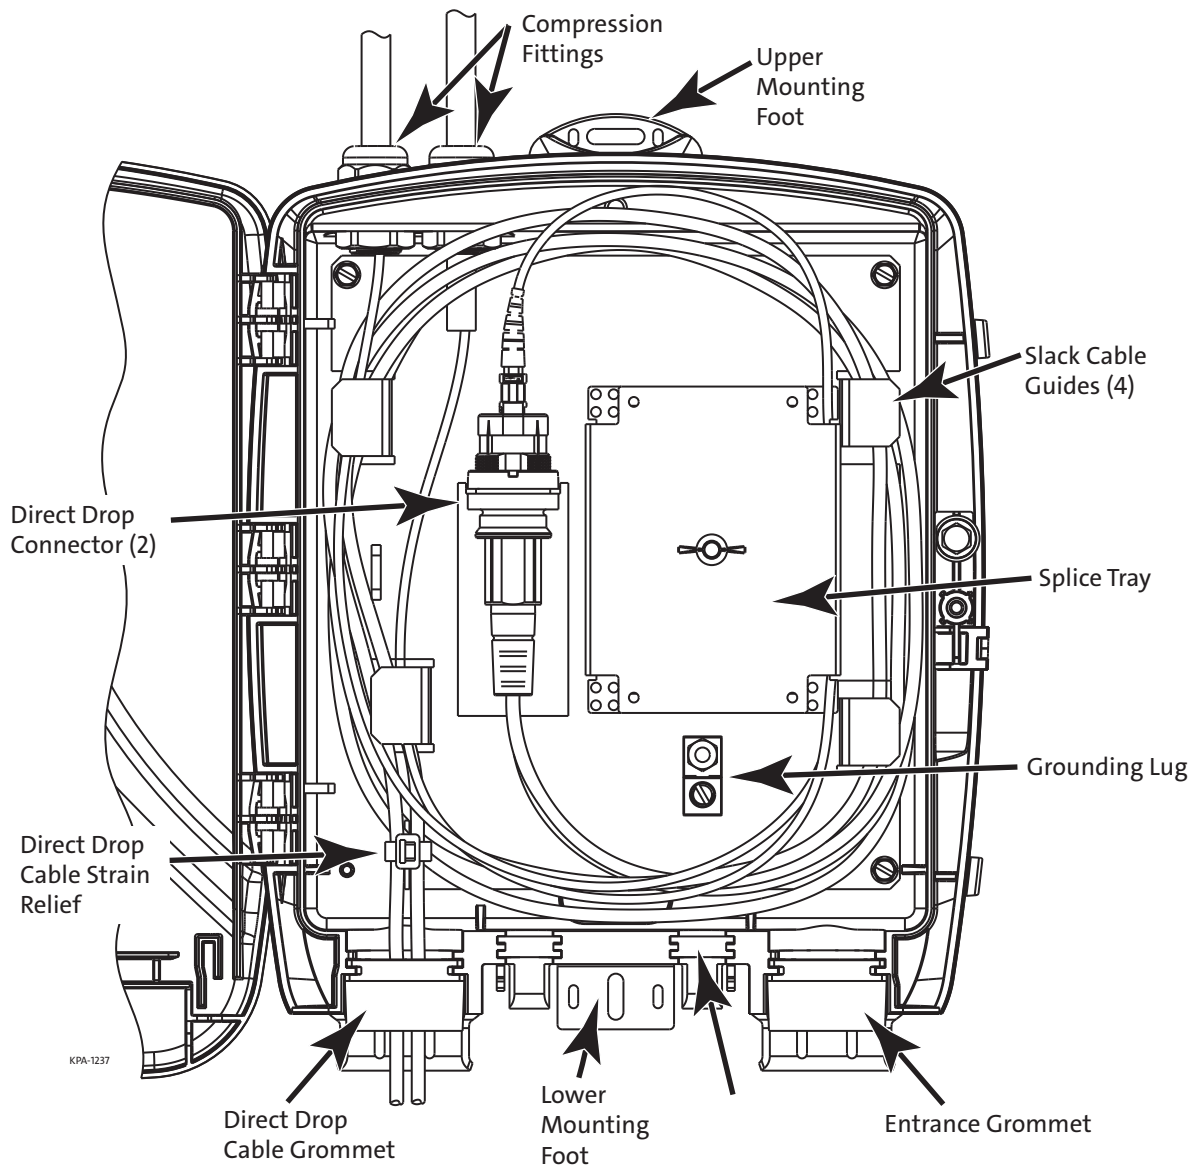

Figure 2
**Step 2:** Route the direct drop service cable through the left entrance of the unit. Allow for two to three loops of cable slack and connect the drop cables to the connectors as shown in Figure 2. Connect cable to bottom connector first.
**Step 7:** Connect the ground wire, according to local code or standard company practice, to the independent ground lug (Figure 2) using a #6 AWG ground wire.